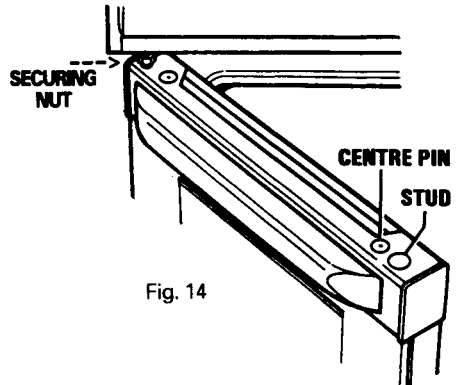

Fig. 14
3. Remove the top securing nut (see Fig. 14) and remove door.
4. Knock out (and retain) the centre pins of the two plastic rivets (see Fig. 14) and remove the rivets.